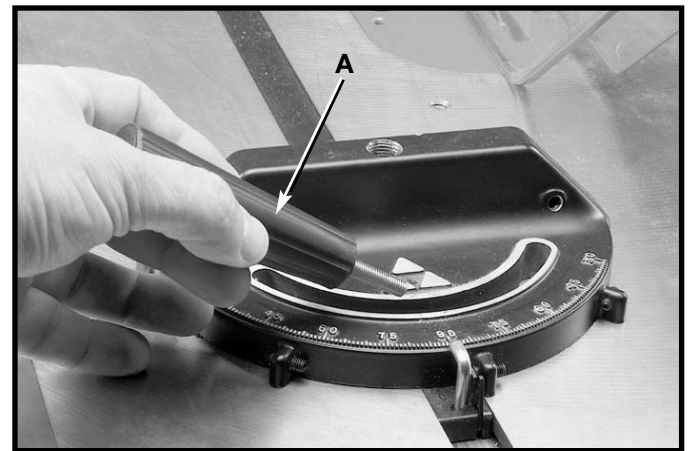
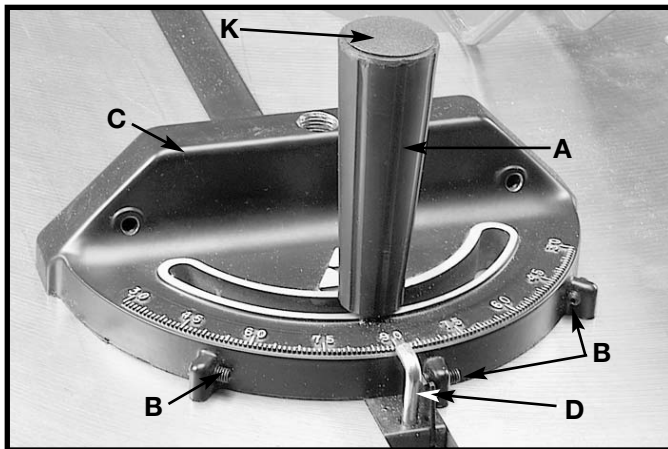

Fig. 56
Fig. 57
1. Insert the miter gage bar into the miter gage slot and assemble the lock handle with washer (A) Fig. 56, to the miter gage bar. Insert cap (K) into top of handle (A) Fig. 57.
2. The miter gage is equipped with adjustable index stops at 90° and 45° right and left. Adjustment to the index stops can be made by **tightening or loosening the three adjusting screws (B) Fig. 57.**
3. To rotate the miter gage, loosen lock knob (A) Fig. 57, and move the body of the miter gage (C) to the desired angle.
4. The miter gage body will stop at 90° and 45° both right and left. To rotate the miter gage body past these points, the stop link (D) Fig. 57, must be moved up and out of the way.